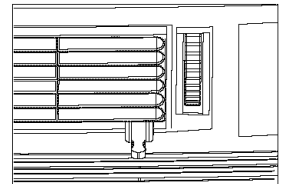

Figure 3 (VENT & EXHAUST OPEN)
3. Exchange air from the room and draws fresh air into the room - Vent and Exhaust Open (See Fig.3)